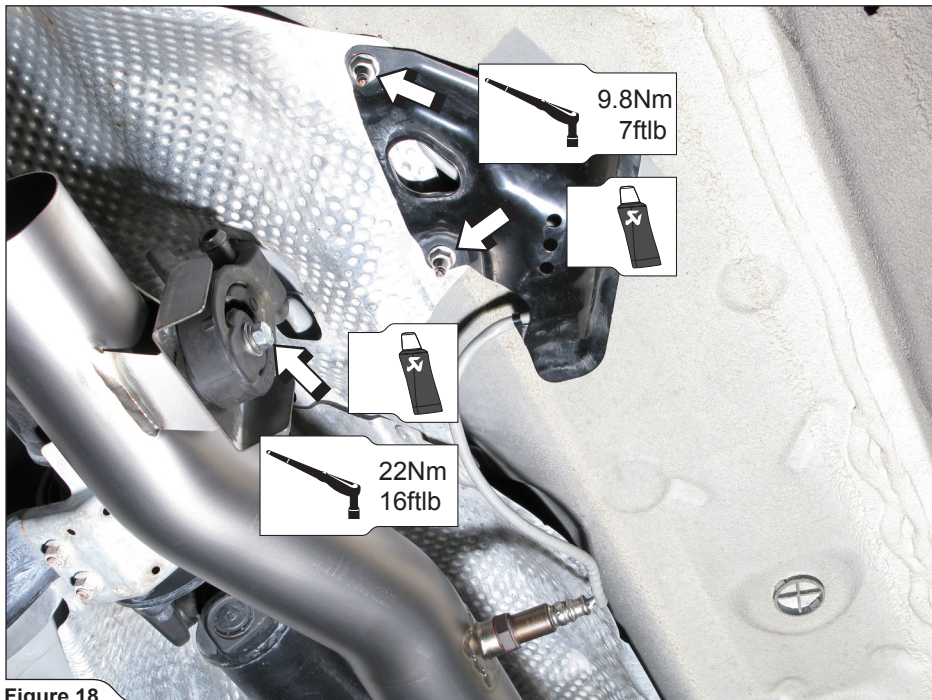

Figure 18
7. **For Evolution only:** tighten the stock rubber bracket (with heatshield) onto the front pipe and assemble the lambda sensor's electrical lead protection back onto the chassis (**Figure 18**).